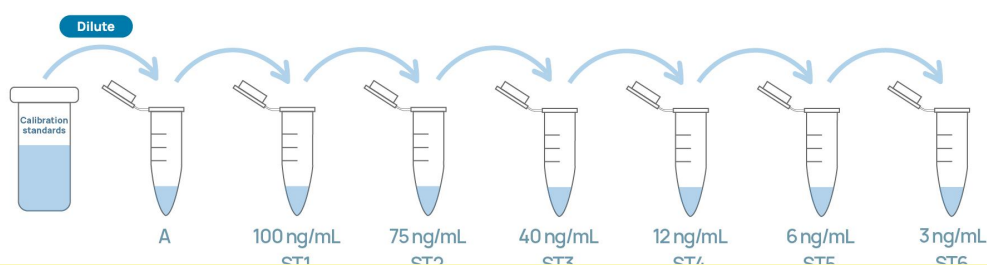

Figure 3. Graphic scheme of CHO K1 HCP Calibration standard solutions
(3) Preparation of Calibration standards Solutions
- Prepare CHO K1 HCP Calibration standard solutions according to Figure 3 and Table 3.